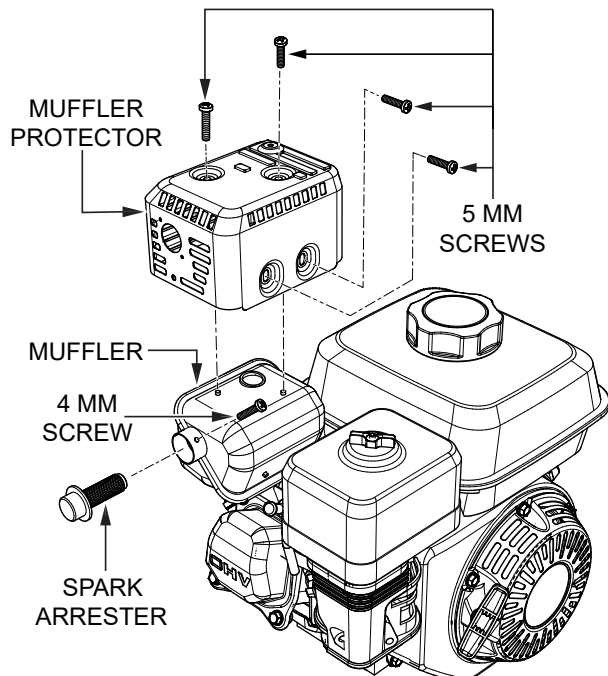

Figure 41. Spark Arrester Removal
1. Remove and retain the four 5 mm screws securing the muffler protector to the muffler (Figure 41). Remove the muffler protector and set it aside.
2. Remove and retain the 4 mm screw securing the spark arrester to the muffler, and remove the spark arrester (Figure 41).